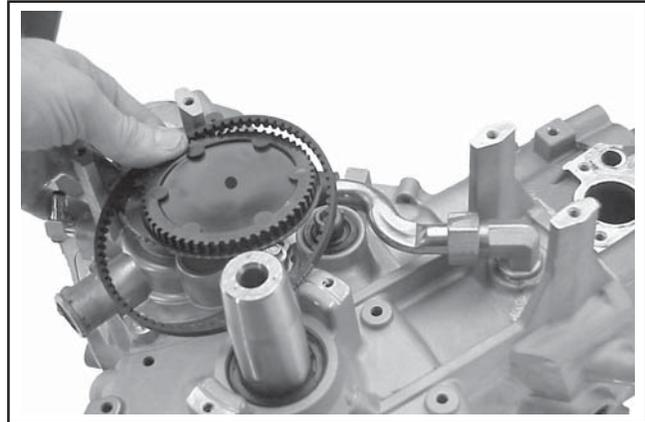

Figure 9-46. Removing Cam Pulley and Belt.
2. Carefully lift the pulley off the camshaft and remove the belt from the water pump pulley. See Figure 9-46.